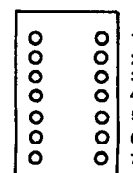

FIGURE 21
11. Configure jumper JW1 as shown in Figure 21. (If unable to determine type of monitoring method being connected to the panel, ask the municipal monitoring facility.)